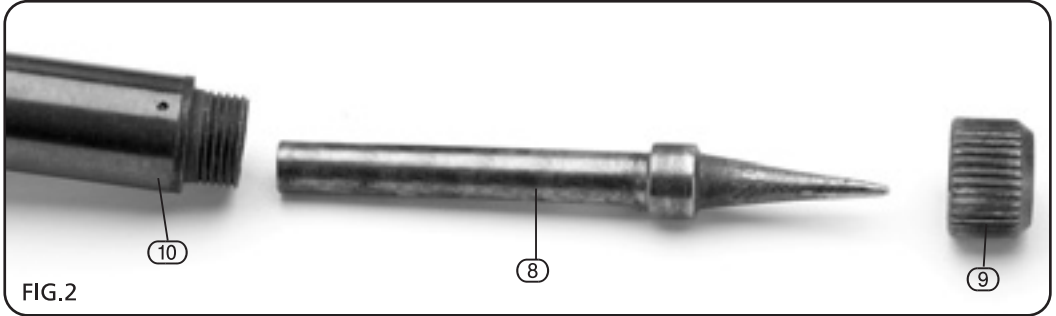

FIG.2
9.1 REPLACING THE SOLDERING TIP - FIG. 2